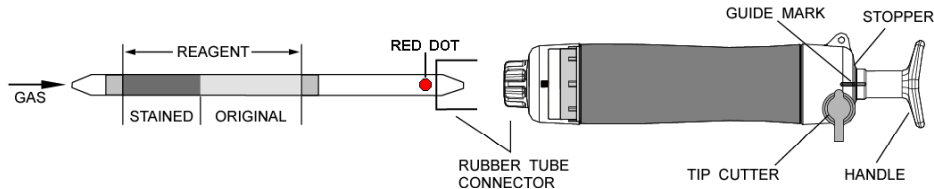

Fig.1
- ① Break both ends of detector tube.
- ② Insert the detector tube into aspirating pump securely as shown in Fig.1. (Red dot shall point to the pump.)
- ③ Align the guide marks on the shaft and stopper of the aspirating pump.
- ④ Pull the pump handle at full stroke until it locks and wait for 2 minutes or until the completion of sampling is confirmed with the flow indicator of the pump (See descriptions about the flow indicator in the instructions of the pump).
- ⑤ On completion of sampling, remove the detector tube from the pump.